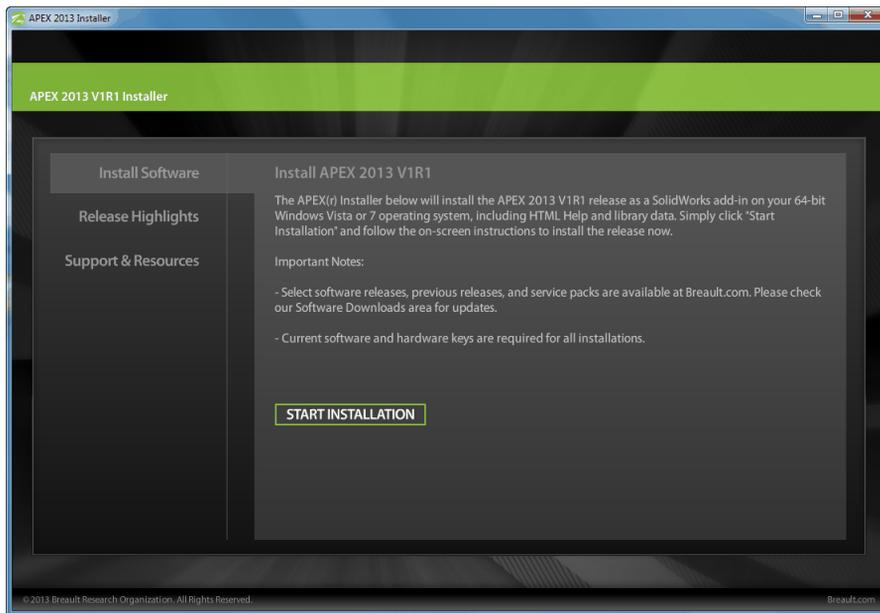

Figure 1 Example of APEX autoplay window
- b If the Autoplay window displays, click **START INSTALLATION**. See Figure 1.